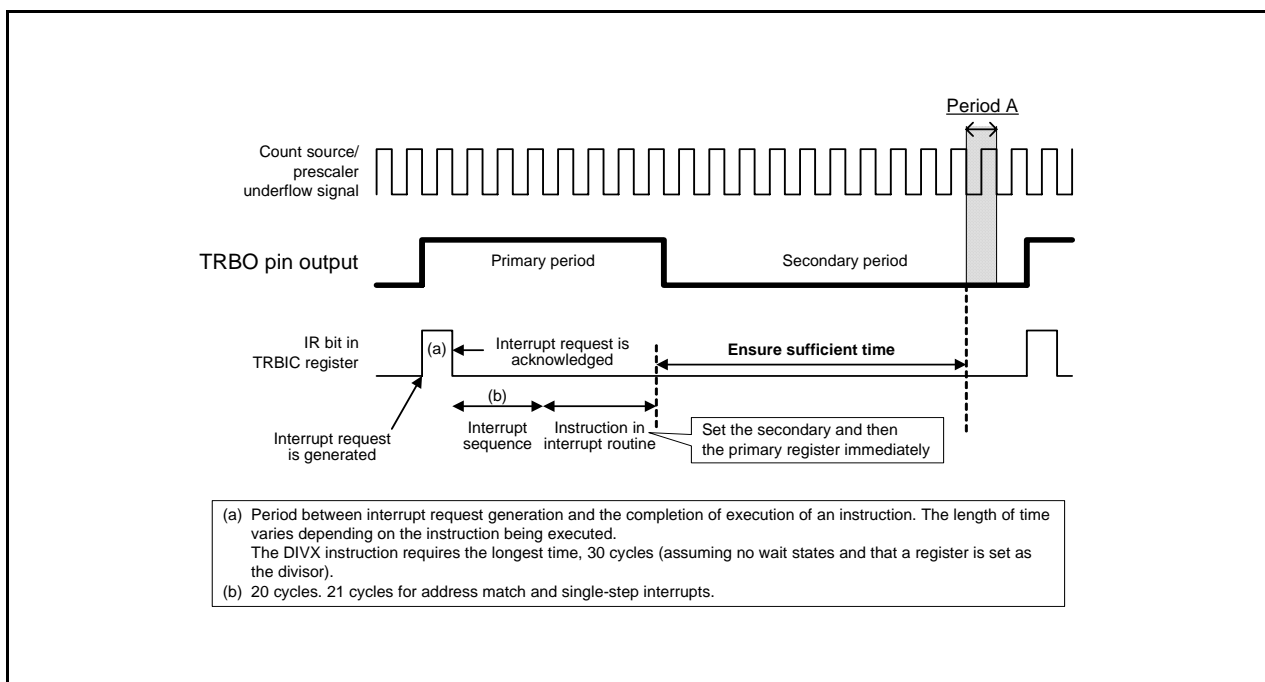

Figure 21.2 Workaround Example (a) When Timer RB interrupt is Used
- (1) To write to registers TRBPRES and TRBPR during count operation (TCSTF bit is set to 1), note the following points:
- (2) To change registers TRBPRES and TRBPR during count operation (TCSTF bit is set to 1), synchronize the TRBO output cycle using a timer RB interrupt, etc. This operation should be performed only once in the same output cycle. Also, make sure that writing to the TRBPR register does not occur during period A shown in Figures 21.2 and 21.3.
As shown in Figure 21.2, write to registers TRBSC and TRBPR in the timer RB interrupt routine. These write operations must be completed by the beginning of period A.